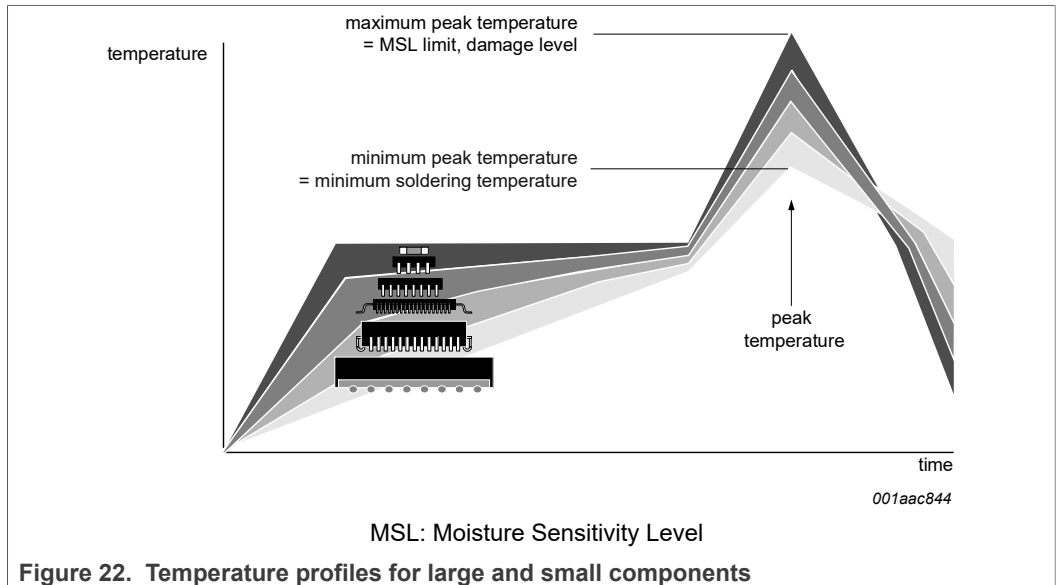

Figure 22. Temperature profiles for large and small components
- Lead-free versus SnPb soldering; note that a lead-free reflow process usually leads to higher minimum peak temperatures (see Figure 22) than a SnPb process, thus reducing the process window
Studies have shown that small packages reach higher temperatures during reflow soldering, see Figure 22.